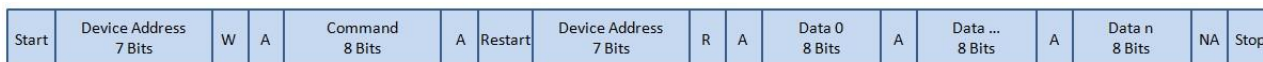

Figure 13. The I2C write and read command sequences.
All commands begin with a Start bit and end with a Stop bit. A Start condition is defined as a HIGH to LOW transition of the SDA while SCL is HIGH. A Stop condition is defined as a LOW to HIGH transition of the SDA while SCL is HIGH. After the Start condition, a slave address is sent. This address is 7 bits long followed by an eighth bit which is a data R/W bit - a 'LOW' indicates a data write (W), a 'HIGH' indicates a data read (R). The Start and Stop conditions are always generated by the I2C master, the host MCU of the TCD. A data transfer is always terminated by a Stop condition generated by the master. However, if a master still wishes to communicate on the bus, it can generate a repeated Start condition (Restart) and address another slave without first generating a Stop condition. Each byte has to be followed by an acknowledge bit (A). The acknowledge-related clock pulse is generated by the master. Examples of an I2C write and read sequence are shown in Figure 13, where W, R, A, NA represent Write (LOW), Read (HIGH), Acknowledge (SDA LOW), and NOT Acknowledge (SDA HIGH), respectively.